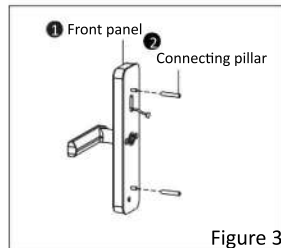

Figure 3
- As shown in Figure 3
- (3) Attach the two connecting pillars to the front panel.